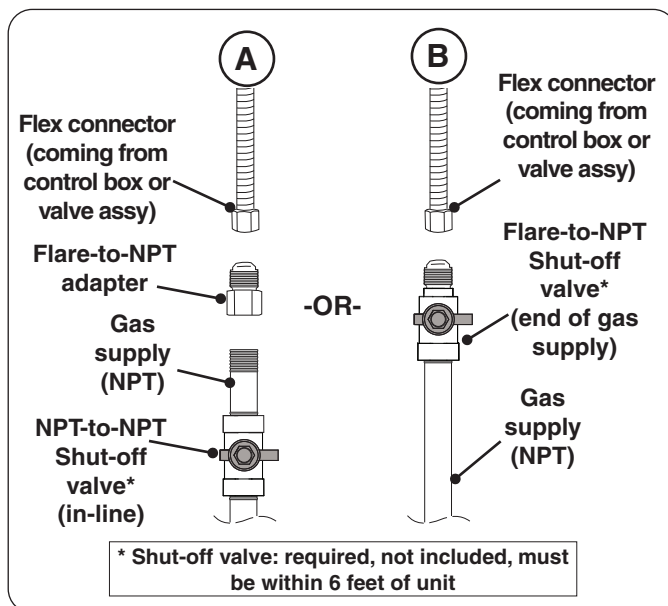

Fig. 36-1 Connecting to a gas line
- Install the supplied flare-to-NPT adapter to the gas supply (NPT) using a pipe joint compound resistant to all gasses (see Fig. 36-1, A). Tighten securely.
- Connect the flex connector to the adapter (see Fig. 36-1, A). Tighten securely.
- Connect the flex connector to the shut-off valve (flare)(see Fig. 36-1, B). Tighten securely.